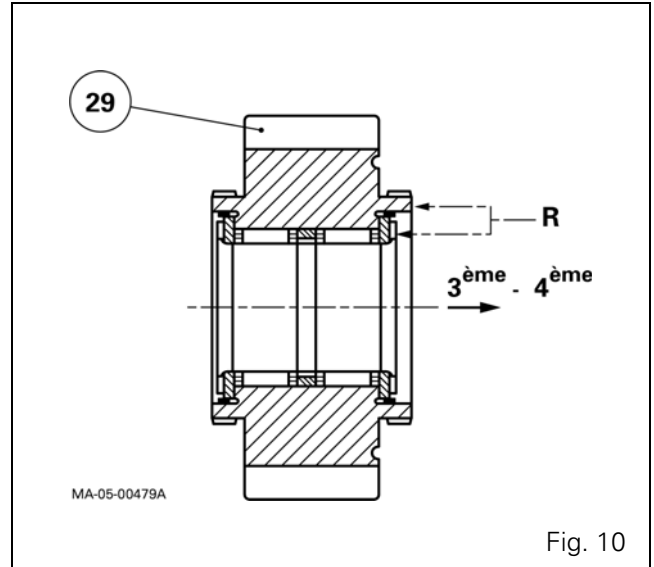
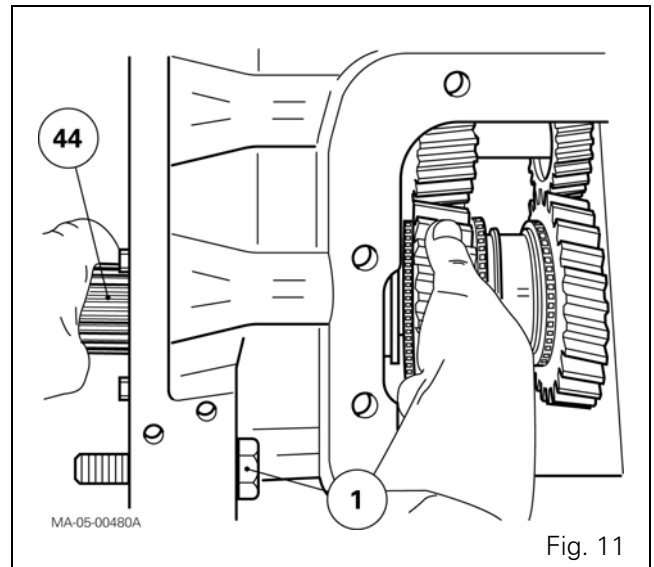

Fig. 10
Fig. 11
3. If necessary, remove the screw (1) (Fig. 11).
- the 3rd driving gear (29) fitted with the needle roller bearings (28) (30) (recess "R" facing towards the 3rd-4th synchroniser (Fig. 10));
- the synchroniser (31).**REMINDER:** The needle roller bearings (28) (30) are force-fitted and are separated by a spacer (80).
41. Fit the output shaft (44) while holding the gear assembly (Fig. 11).
60. Refit the selector cover plate (see chapter 5), by first checking for the presence of the screw (1) (Fig. 11).